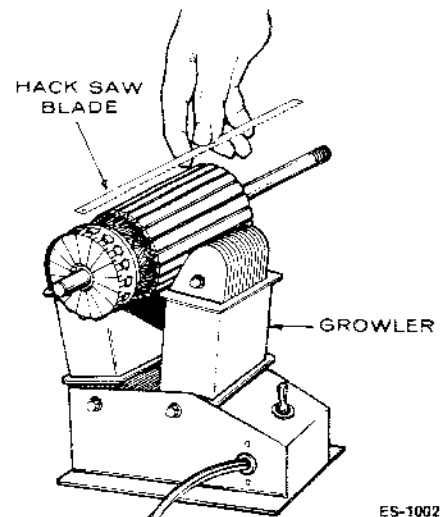

FIGURE 20. TESTING ARMATURE FOR SHORT CIRCUITS
**Testing Armature for a Short Circuit:** Use a growler for locating shorts in the armature. Place armature in growler and hold a thin steel blade (e.g. hacksaw blade) parallel to the core and just above it while slowly rotating armature in growler. A shorted armature will cause the blade to vibrate and be attracted to the core. If armature is shorted, replace with a new one (Figure 20).